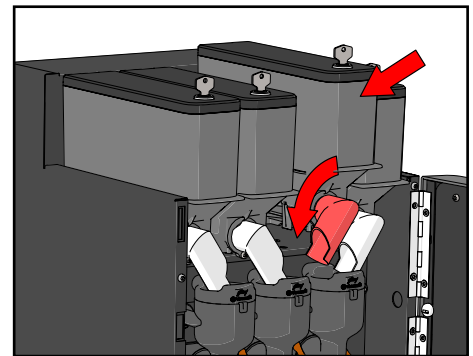

Figure 9.
4. Reinsert the canisters into the machine (see Figure 9)